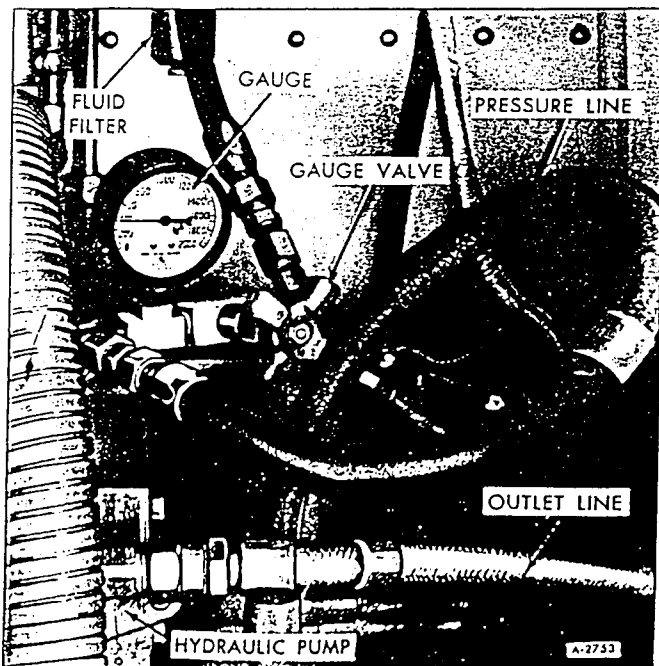

Figure 6 - Checking Pump Hydraulic Pressure
2. Connect pressure checking gage (J-5631-02) (fig. 6) between the pump pressure line and power steering fluid filter. Leave valve in pressure gage line open.